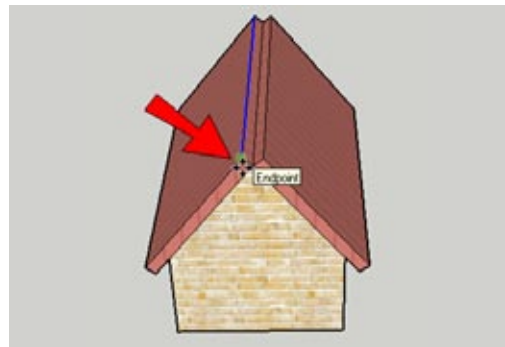

Figure 5-10
11. Activate Move. For the first move point, click the corner point indicated in Figure 5-10.